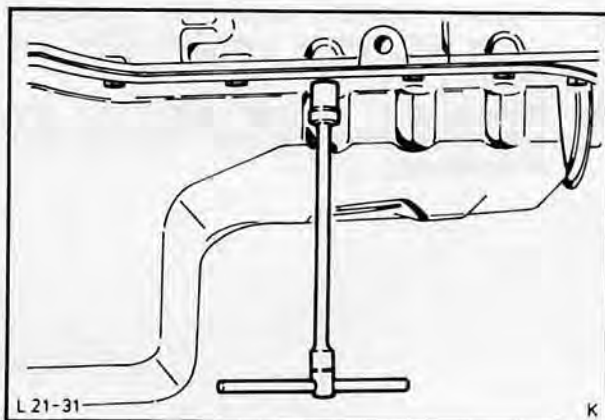

Fig. 82. Detach oil sump
16. Remove sump with engine mounted upright in the stand, to prevent sludge and swarf from getting into engine, Fig. 82.